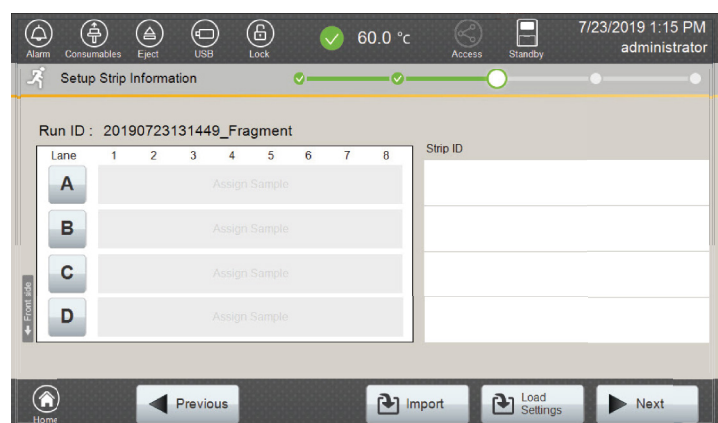
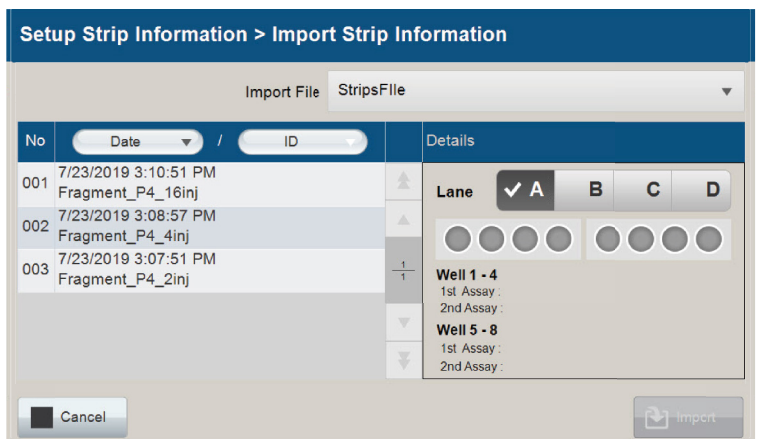

Figure 75. 'Setup Strip Information' screen: Importing a strip.
Figure 76. 'Import Strip Information' screen.
2. Select **Import** at the bottom of the 'Set Strip Information' screen (Figure 75) to open the 'Import Strip Information' screen (Figure 76).
3. Select the desired 'Strip File' information from the list (Figure 76).